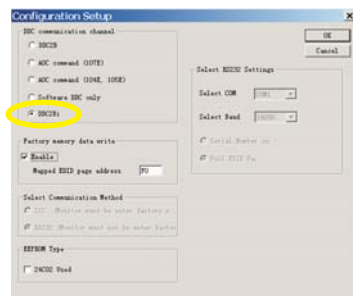

Fig. 40
1. Configuration should be as Fig. 40. And press OK.